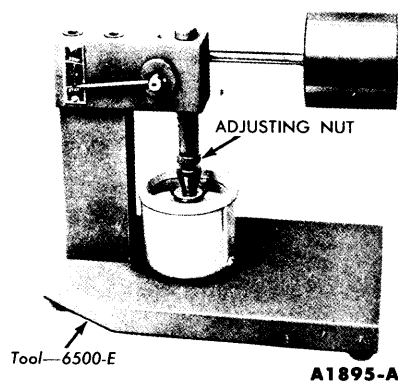

FIG. 4—Adjusting the Ram Length
3. Adjust the length of the ram so that the pointer is in line with the starting mark when the ram contacts the valve lifter plunger (Fig. 4).